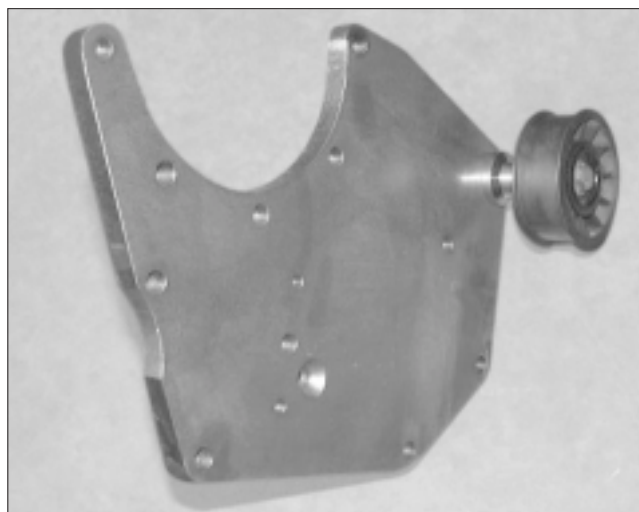

Fig. 8-b
- C. Secure the supplied idler, idler spacer, dust cover, washer and 3/8" hardware to the large mounting plate. (See Fig. 8-b.) Make sure